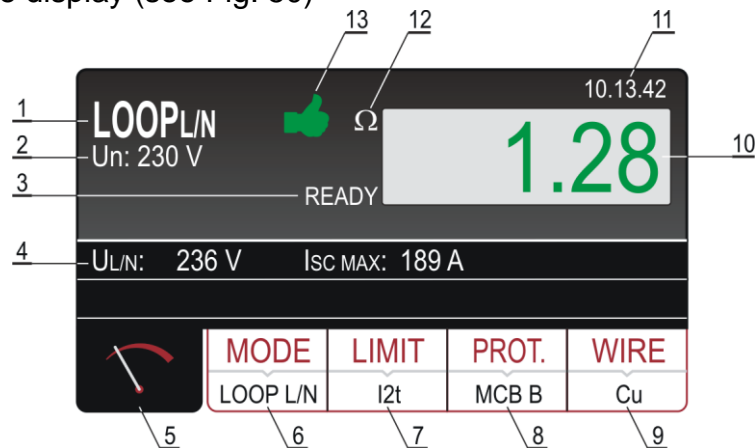

Fig. 50 : Visualization of LOOP test result
9. Press the **START/STOP** key to perform the measurement. The test result is shown on the display (see Fig. 50)